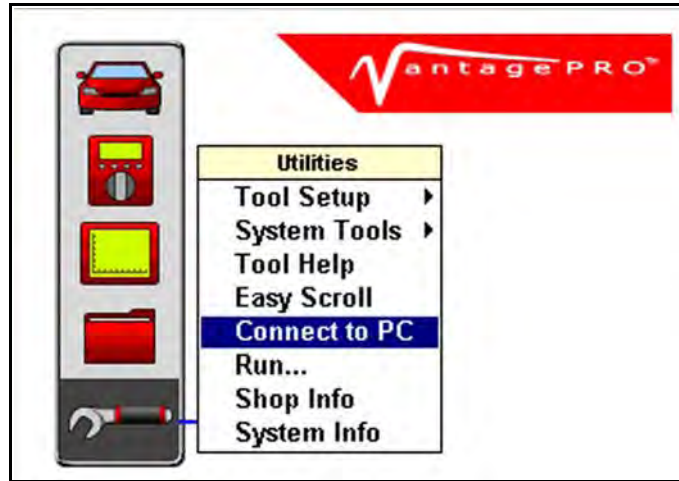

Figure 2-28 Sample Vantage PRO utilities menu
2. From the Main Menu, navigate to **UTILITIES > Connect to PC** (Figure 2-28).